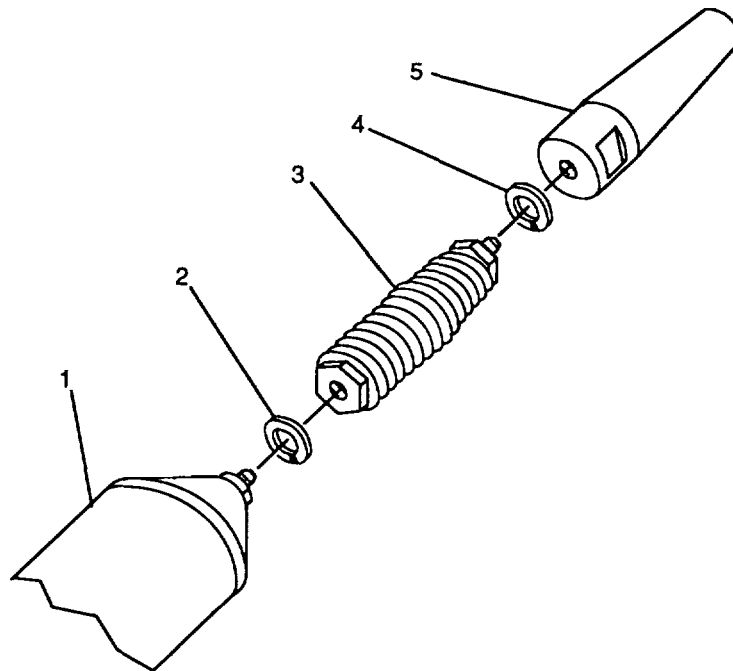

Figure 3-6. AB-1311/VRC-86 Antenna Base Shock Spring
- (1) Remove whip from antenna base and antenna base from vehicle as described in paragraph 3-18.a.
- (2) Refer to figure 3-6. Shock spring (3) is threaded on to a stud on the antenna base housing (1). Loosen and remove shock spring (3) with whip adapter (5) from antenna base housing (1). Retain lock washer (2) for installation of new shock spring.
- (3) Antenna whip adapter (5) is threaded on to shock spring (3). Loosen and remove whip adapter (5) from shock spring (3). Retain lock washer (4) for installation of new shock spring.
- (4) for installation of new shock spring.
- (1) Refer to figure 3-6. Thread antenna whip adapter (5) with lock washer (4) retained in step a.3 above, on to threaded stud of shock spring (3). Tighten until lock washer (4) is fully compressed.
- (2) Thread shock spring (3) with whip adapter (5) with lock washer (2), retained in step a.2 above, on to threaded stud on antenna base housing (1). Tighten until lock washer (2) is fully compressed.